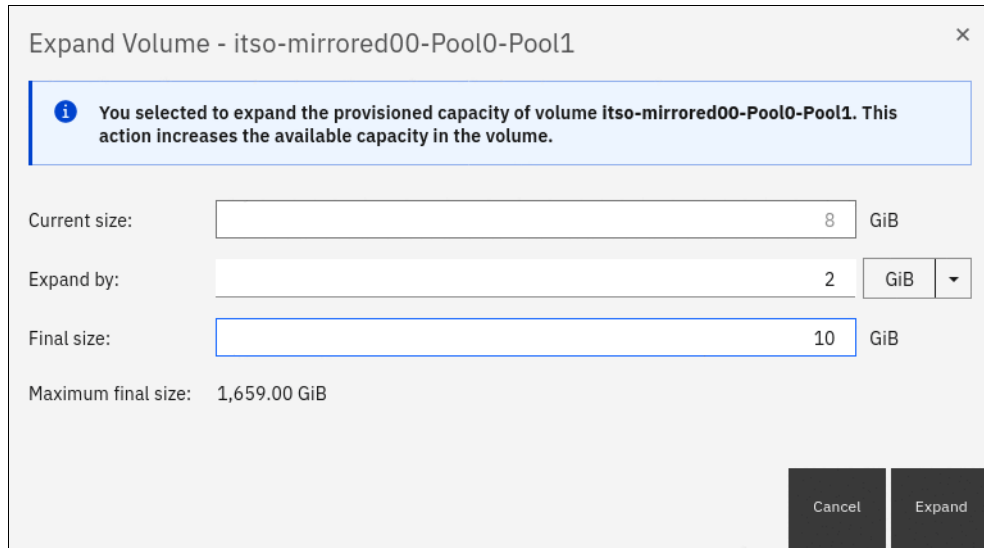

Figure 6-45 Specifying the expanded volume size
- Specify either **Expand by:** or **Final size:** (the other value is calculated automatically) and click **Expand**, as shown in Figure 6-45.